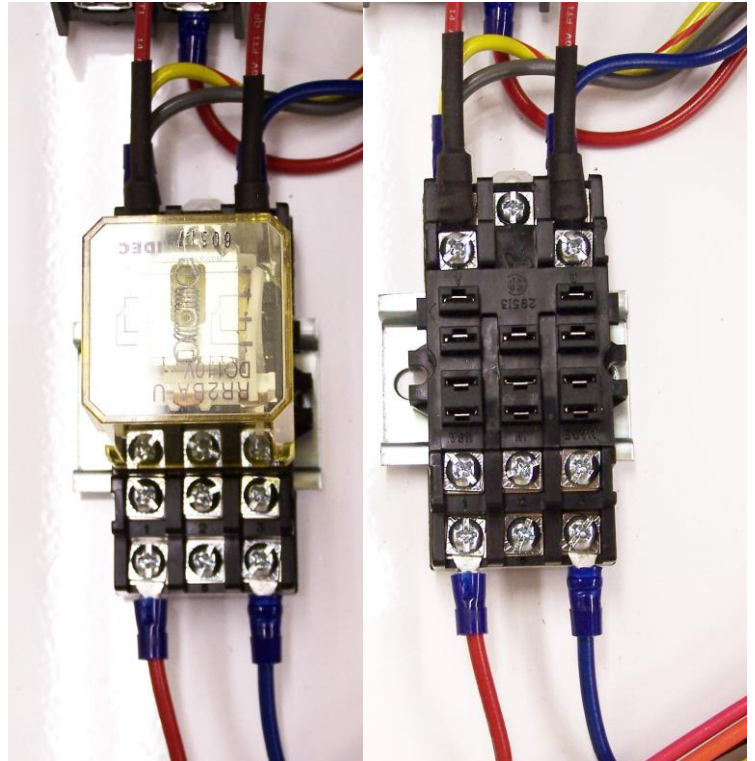

Figure 1
STEP 1 - Remove the relay from the existing relay socket. Disconnect and leave the wires in place for new Socket (Figure 1).